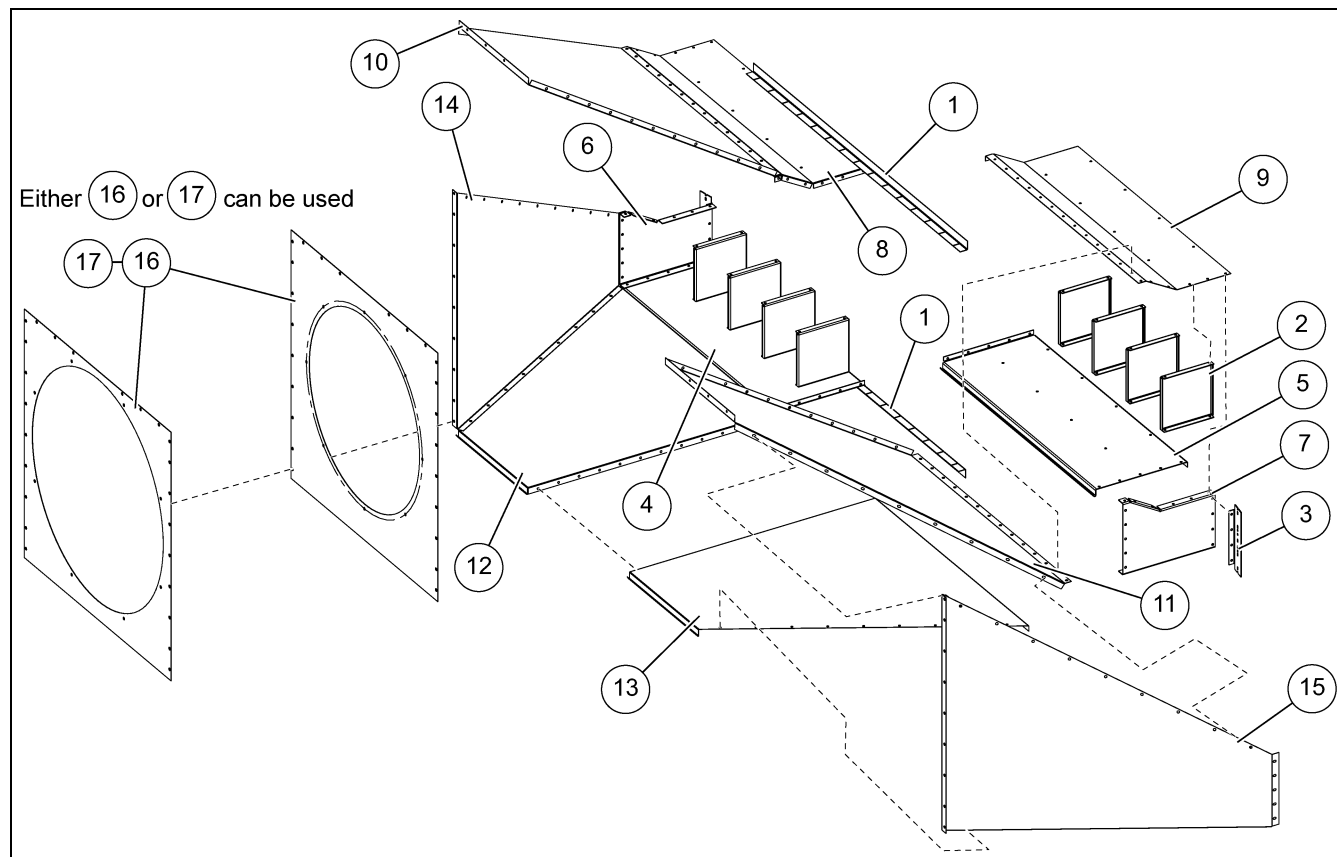

**Figure 1** *Bottom Panel Flange Detail*
2. Bottom panel flanges should always be on the “outside” of the transition assembly. Refer to bottom panel flange detail in Figure 1 for proper flange direction and assembly of individual flange type. Bolt bottom panel to all entrance collar braces and side entrance collar pieces. Be sure and use 5/16" x 1" bolts and nuts.
5. Install entrance collar mounting brackets (3) to transition on inside of bin. Be sure and use 5/16" x 1" bolts and nuts.
6. Using 5/16" x 1-1/4" bolts and nuts, install entrance collar mounting brackets (3) to bin sidewall. Installer must seal between bin sidewall and entrance collar mounting brackets (3). No sealer is provided.
7. After putting transition on bin, locate sizing angle (1) to curvature of bin, screw to top entrance collar and to bin sidewall. Use #10 x 1" screws.